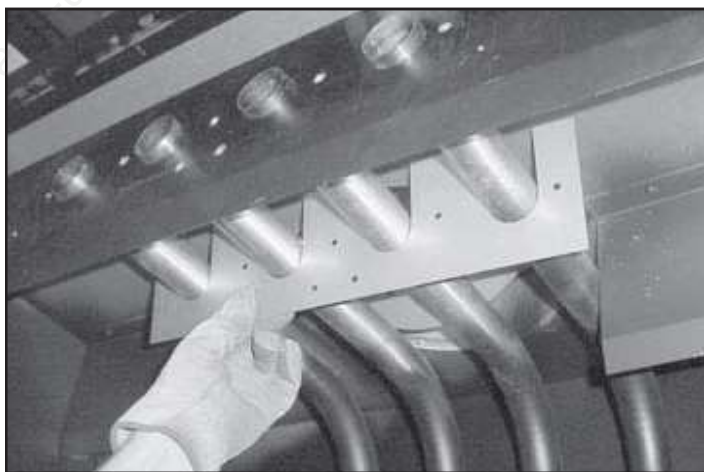

Figure 13 Place Front Seal Plate
- Slide front seal plate up from bottom, top first (to clear screw heads on back of smoke shield). Slide forward and hold front seal plate tight against insulation, lining up with holes in smoke shield. See Figures 13 and 14.